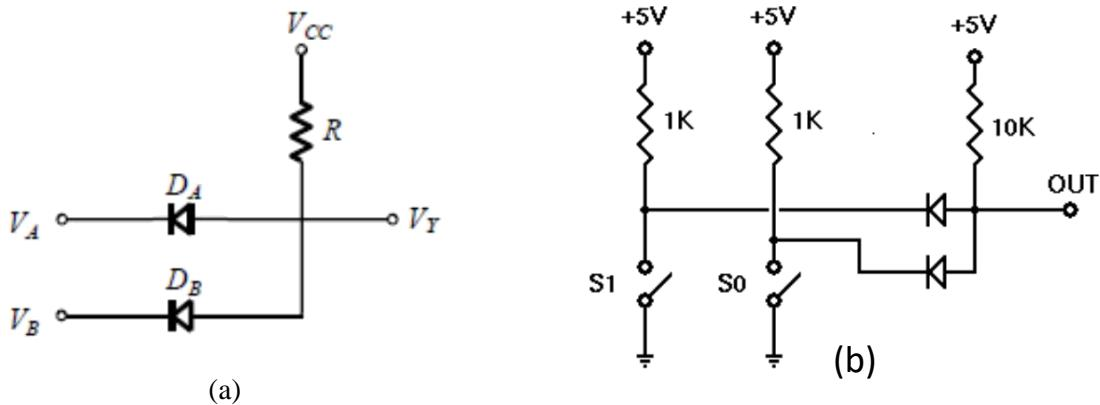

Fig.2 DL-AND Gate
2. Construct the DL-AND gate on your breadboard as shown in Fig. 2. Then draw a Truth Table similar to the one provided and fill in your experimental results.